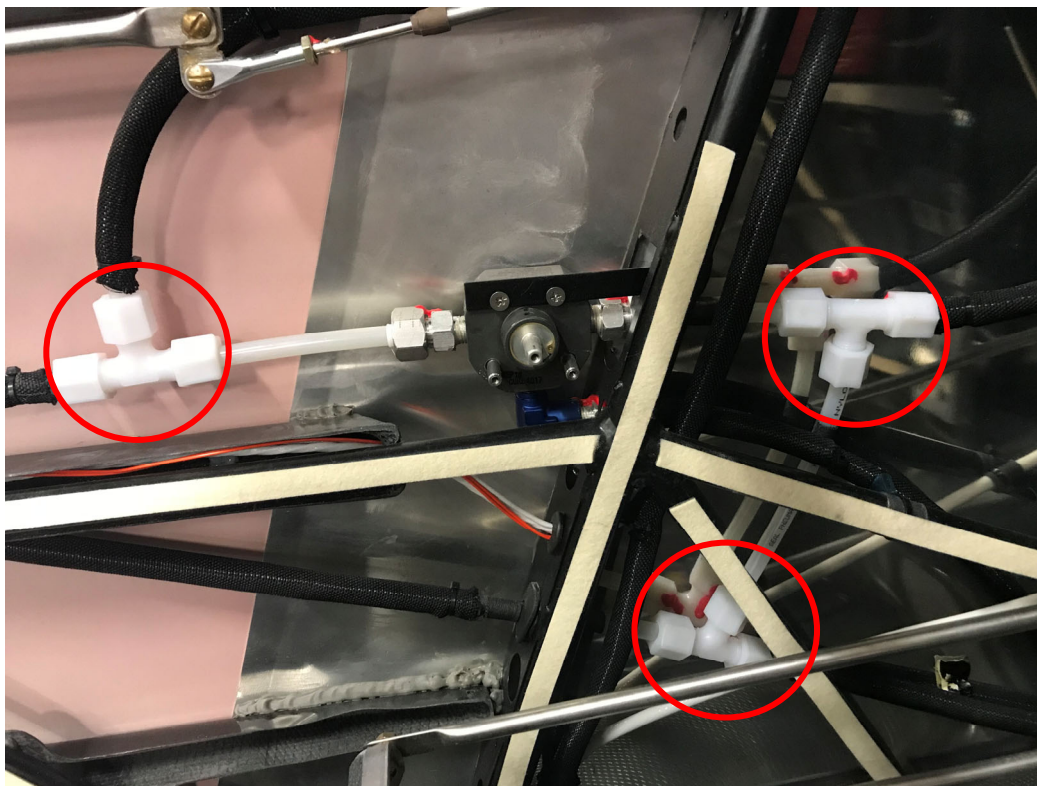

Figure 1 - Fuel Selector Nylon Fuel Fittings
2. Remove the left side interior panels from the cabin to allow access to the fuel lines and fittings near the fuel selector; refer to the Maintenance Manual (CK10000AMM) Chapter 25-00 page 9 for instructions to avoid damaging the panels during removal. In this area, there are 3 Nylon Union Tee fittings; CubCrafters part number SP60003-001. See Figure 1.
The fuel line configuration shown in Figure 1 is for aircraft CCX-1865-0001, CCK-1865-1001, CCX-2000-0001 and on. CCK-1865 aircraft prior to SN 1001 may have a fuel line configuration in this area that includes two Nylon Union Tee fittings and one Nylon Union Elbow fitting.